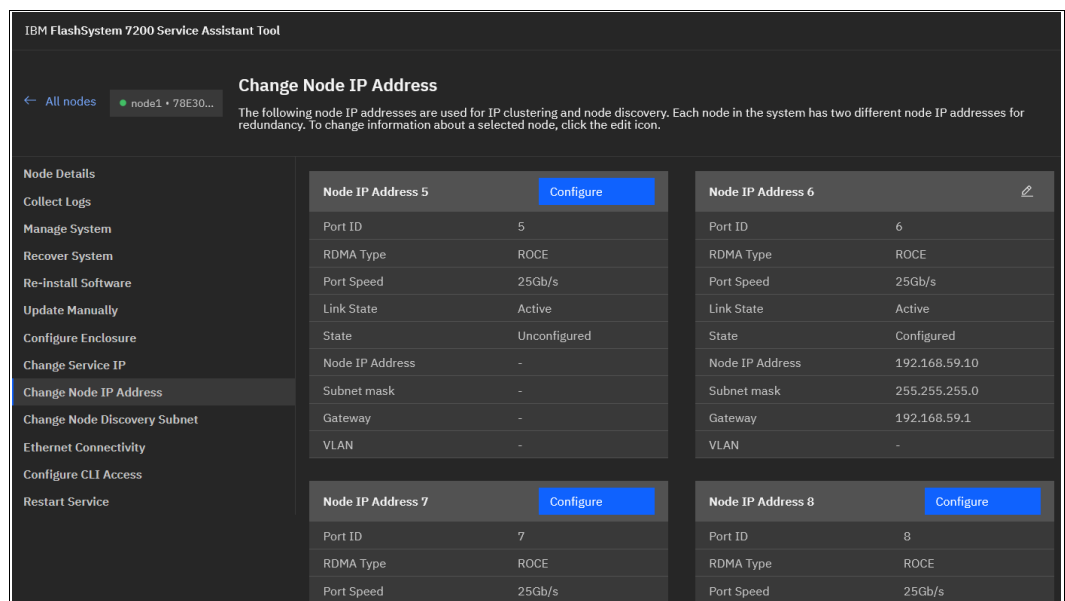

Figure 3-35 Node IP addresses configured
2. Hover over a tile with a port and click **Configure** to set the IP address, netmask, gateway address, and VLAN ID for a port. The IP address for each port must be unique and cannot be used anywhere else on the system. The VLAN ID for ports that are used for node-to-node traffic must be the same on all nodes. When the required information is entered, click **Save** and verify that the operation completed successfully, as shown in Figure 3-35. Repeat this step for all ports that you intend to use for node-to-node traffic, with a minimum of two and a maximum of four ports per node.